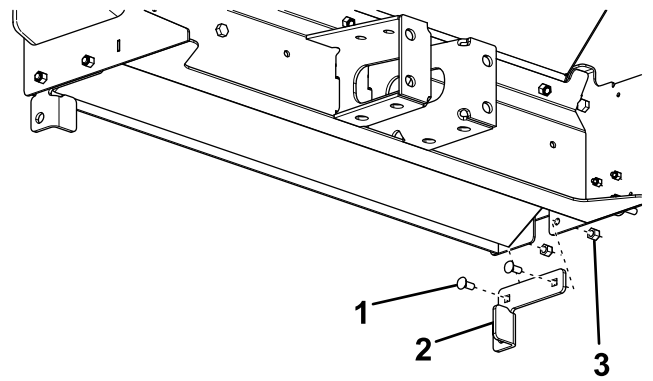

Figure 17
2. Secure the bed stops to each side of the spreader frame using 4 bolts (5/16 inch) and locknuts (Figure 17).